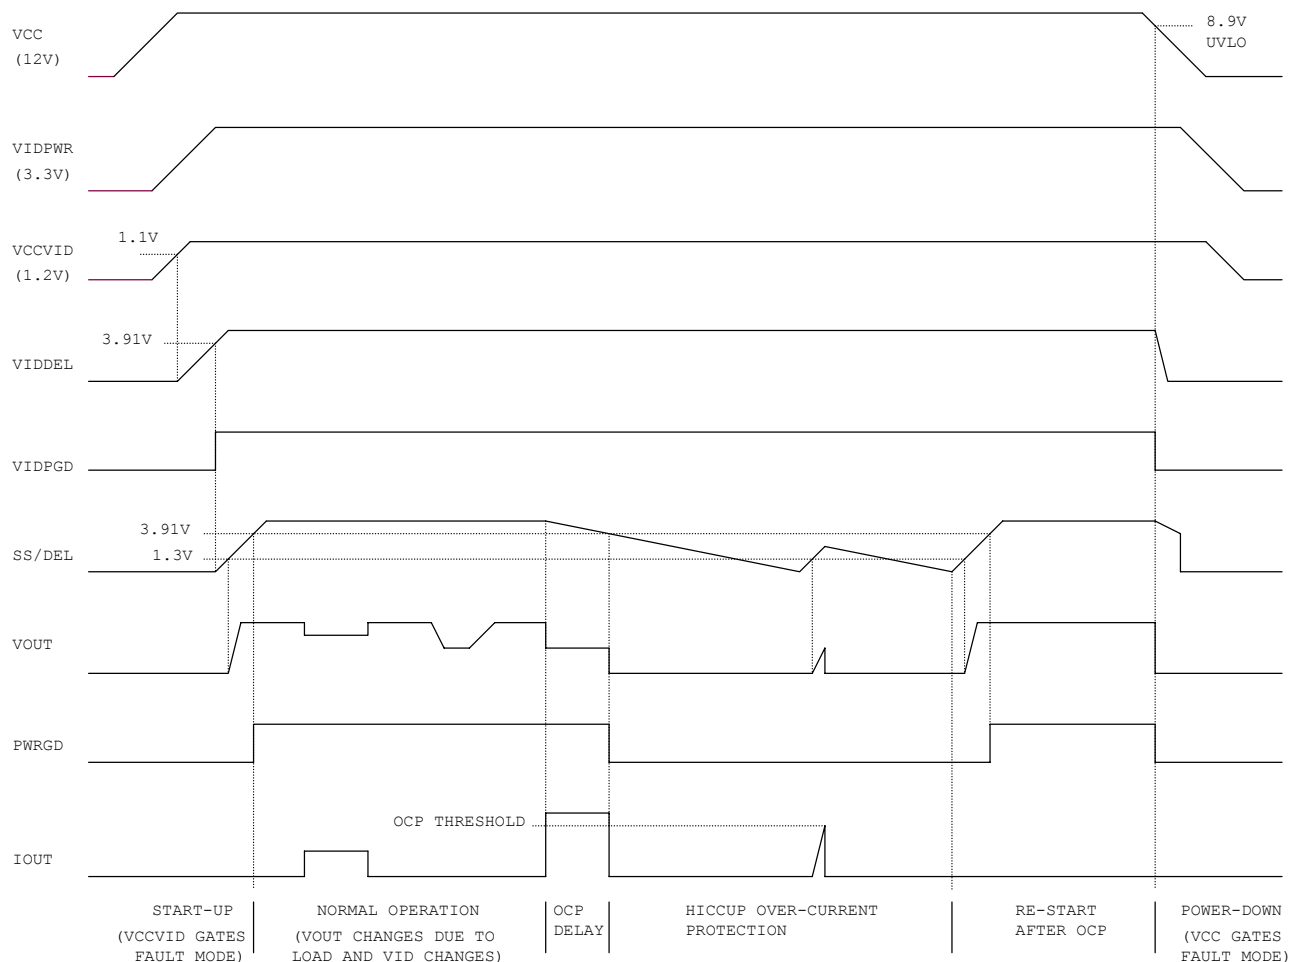

Figure 11. Operating Waveforms
Figure 11 depicts the various operating modes as controlled by the SS/DEL function. If there is no fault, the SS/DEL capacitor pin will begin to be charged. The error amplifier output is clamped low until SS/DEL reaches 1.3V. The error amplifier will then regulate the converter's output voltage to match the SS/DEL voltage less the 1.3V offset until it reaches the level determined by the VID inputs. The SS/DEL voltage continues to increase until it rises above 3.91V and allows the PWRGD signal to be asserted. SS/DEL finally settles at 4V, indicating the end of the soft start.
The SS/DEL pin voltage controls the slew rate of the converter output voltage, as shown in Figure 11. After the VIDDEL pin voltage rises above 3.91V, there is a soft-start delay time  $t_{SSDEL}$ , after which the error amplifier output is released to allow the soft start. The soft start time  $t_{ss}$  represents the time during which converter voltage rises from zero to  $V_O$ .  $t_{ss}$  can be programmed by an external capacitor, which is determined by Equation (2).